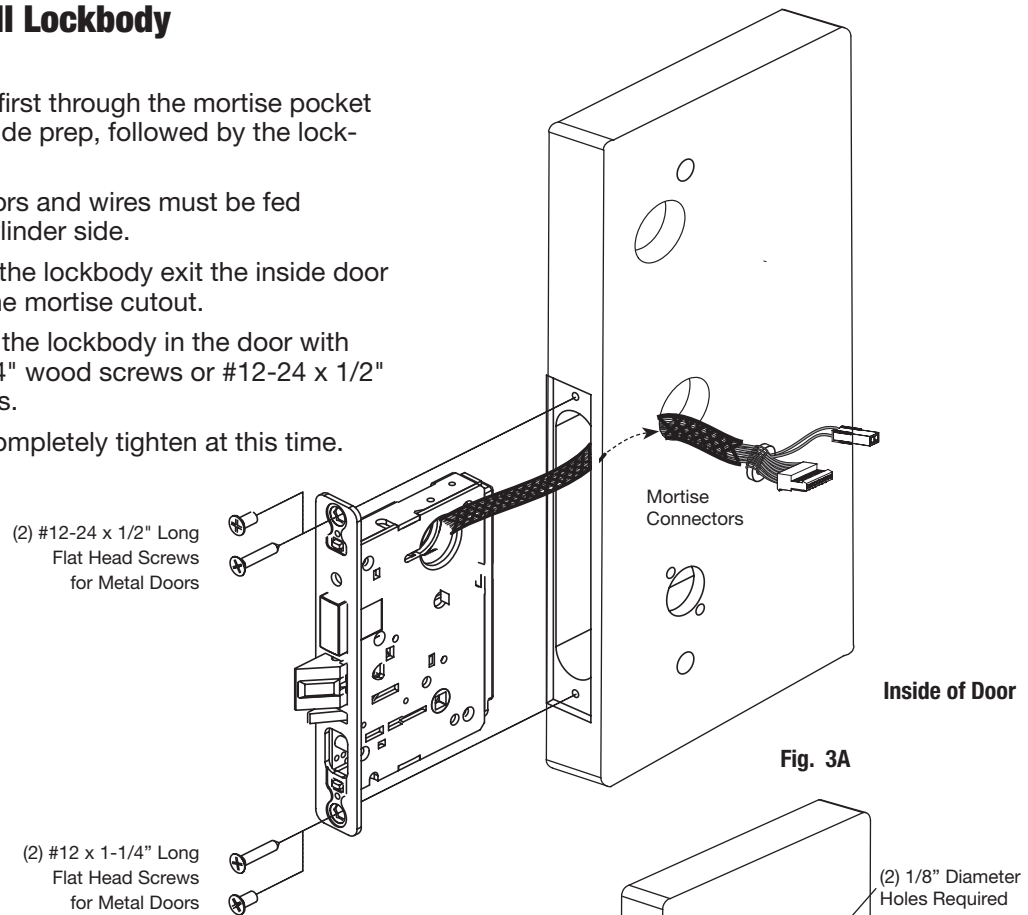

Fig. 3A
1. Feed the wires first through the mortise pocket and out the inside prep, followed by the lockbody (Fig. 3A).